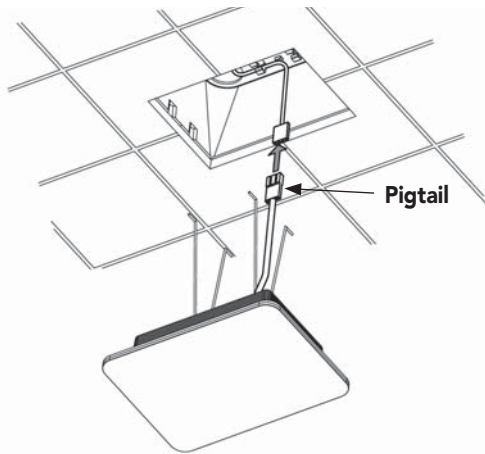

Figure 11
1. Connect the ChromaSteam3 fixture's pigtail to the 30-foot control cable in the junction box (**Figure 11**).